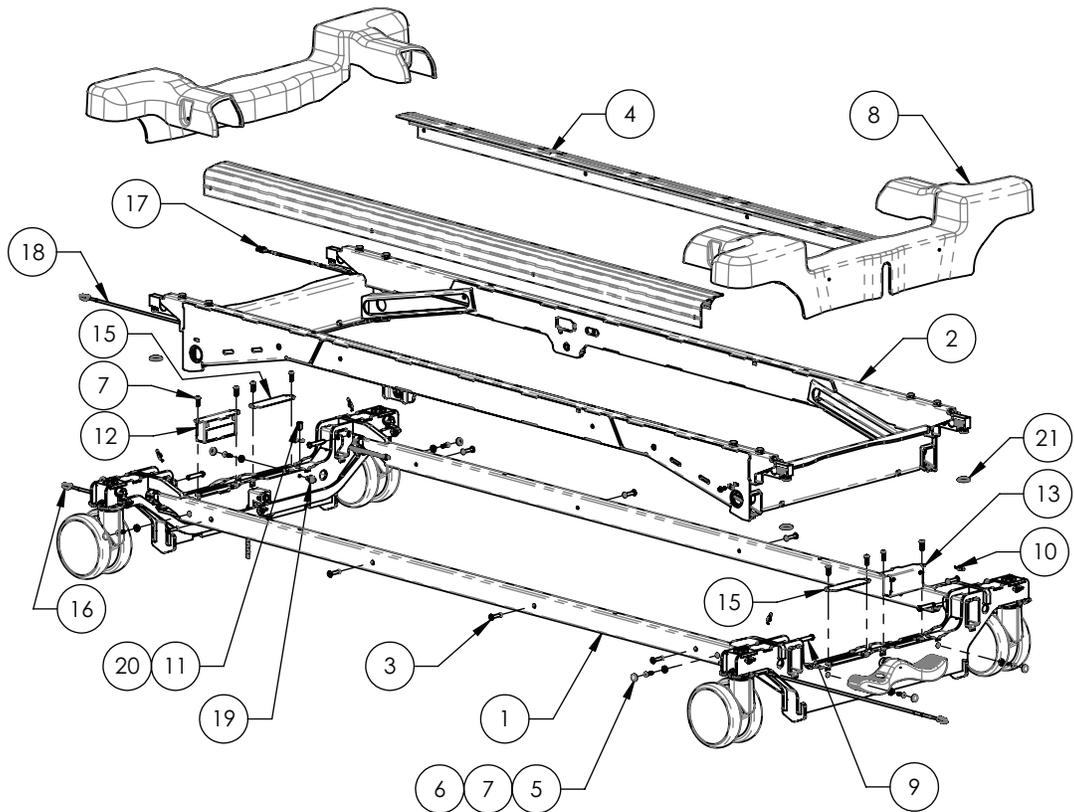

Figure 3 – Caster replacement
4. Using a small flat head screwdriver, remove and save the four caster cover screw caps (5).
5. Using a #2 Phillips screwdriver, remove and save the four screws (7) that secure the caster cover (8) to the base frame. Remove and save the caster cover (8) (Figure 3).